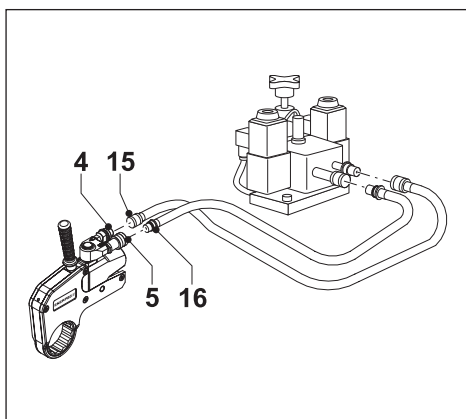

Fig. 6
3.4 To Connect the Hoses (Fig. 6)